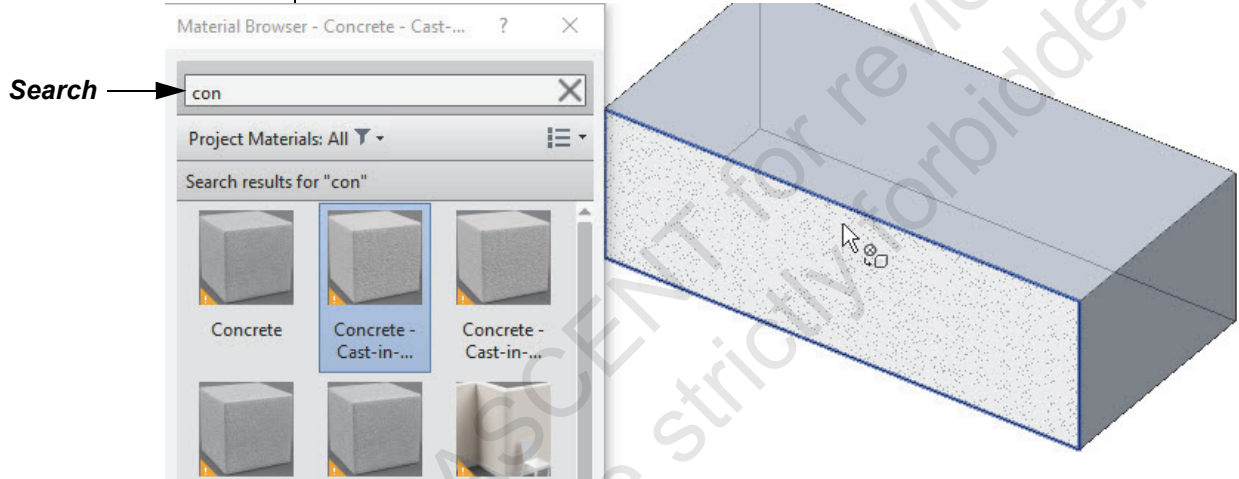

Figure 1–82
3. Select the face(s) of the mass that you want to paint, as shown on the right in Figure 1–82.